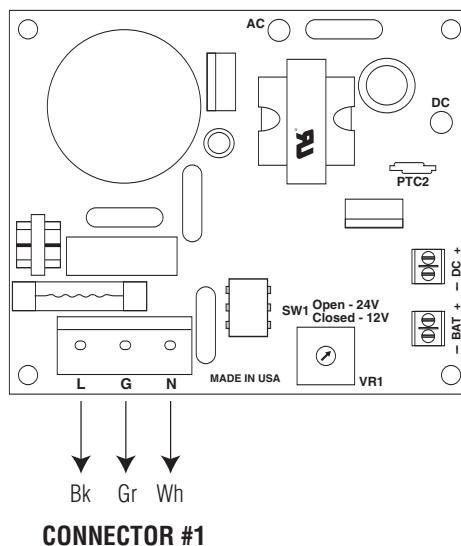

Fig. 1
3. Connect AC power to connector #1 (Fig. 1) (black & white flying leads) and ground (green flying lead)
5. Connect devices to be powered to terminals marked [-DC +] (Fig. 1).
6. When the use of stand-by batteries are desired, they must be lead acid or gel type. Connect battery to terminals marked [-BAT +] (Fig. 1). Use two (2) 12VDC batteries connected in series for 24VDC operation.